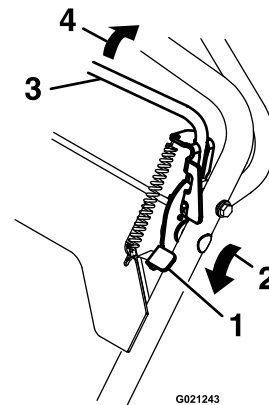

Figure 12
2. Push and hold the blade-control lock forward to release the blade-control bail (Figure 12).